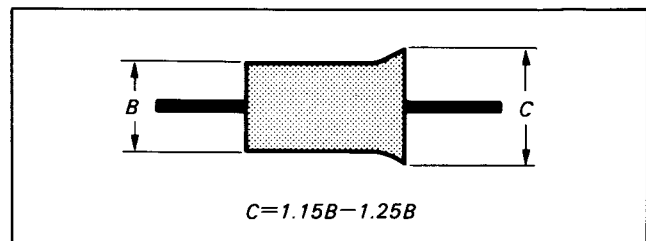

Fig. 8-82.
- 5) Turn No.5 guide so that the exit side waveform flats slightly. (Fig 8-82)